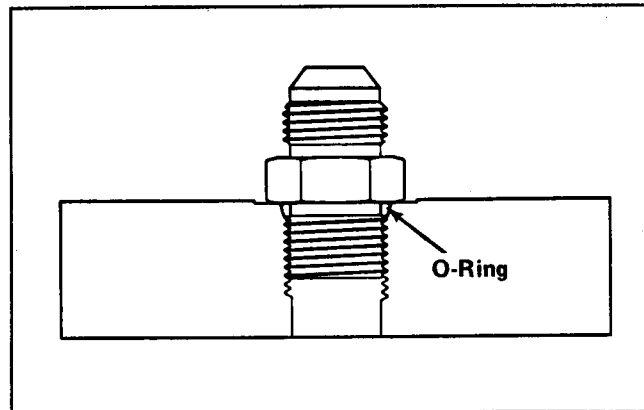

Figure 22
4. Install the fitting into the port and tighten it down full length until finger tight (Fig. 22).